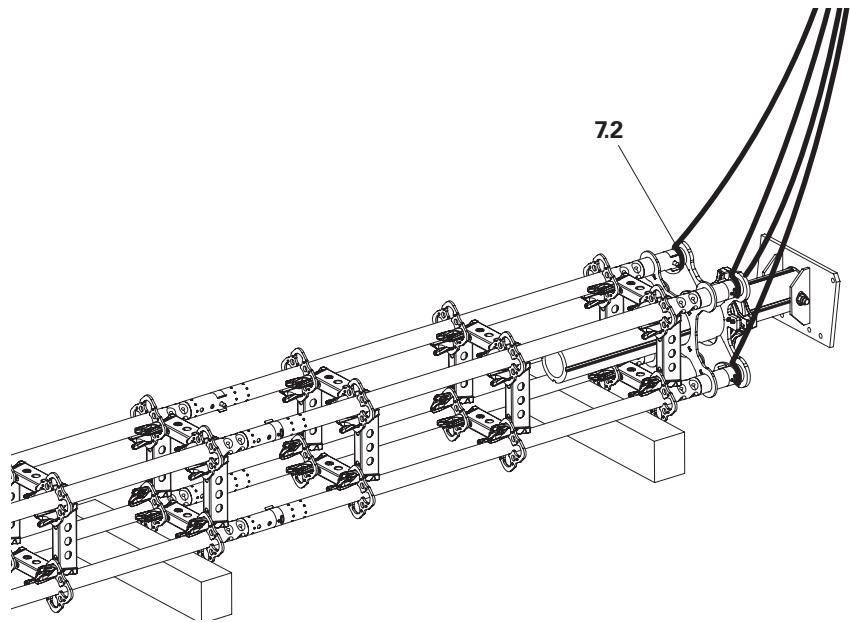

Fig. A2.04
1. Attach the Heavy-Duty Prop HD around the standard supports (7.2) of the head plate with a textile sling and carefully lift the prop. (Fig. A2.04)